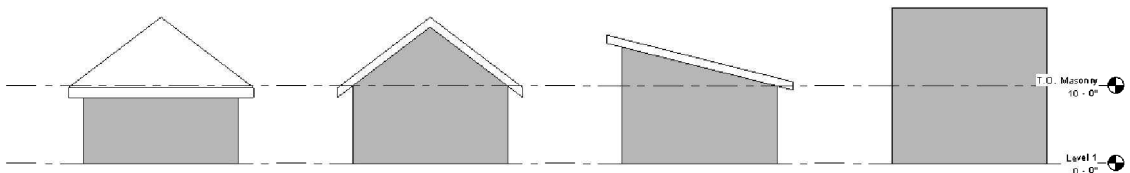

FIGURE 6-3.10 South elevation – shed roof
37. Switch to the **South** elevation view (Figure 6-3.10).